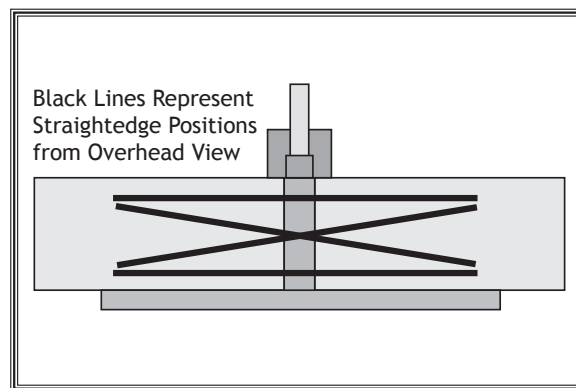

Figure 32. Straightedge positions for checking infeed/outfeed table parallelism.
3. Place straightedge in the positions shown in **Figure 32**. In each position, straightedge should sit flat against both outfeed table and infeed table.